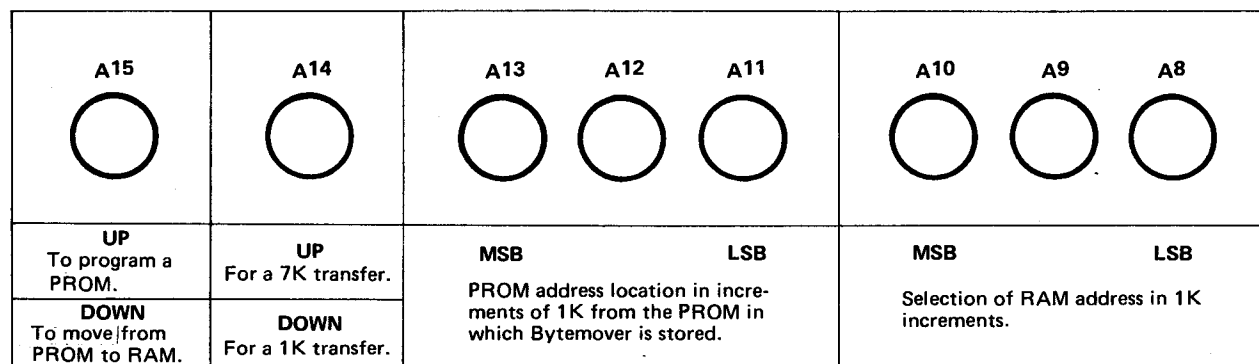

FIGURE 2: Function of the sense switches in Bytemover.
4. Now set the sense switches for the task to be done, referring to Figure 2.